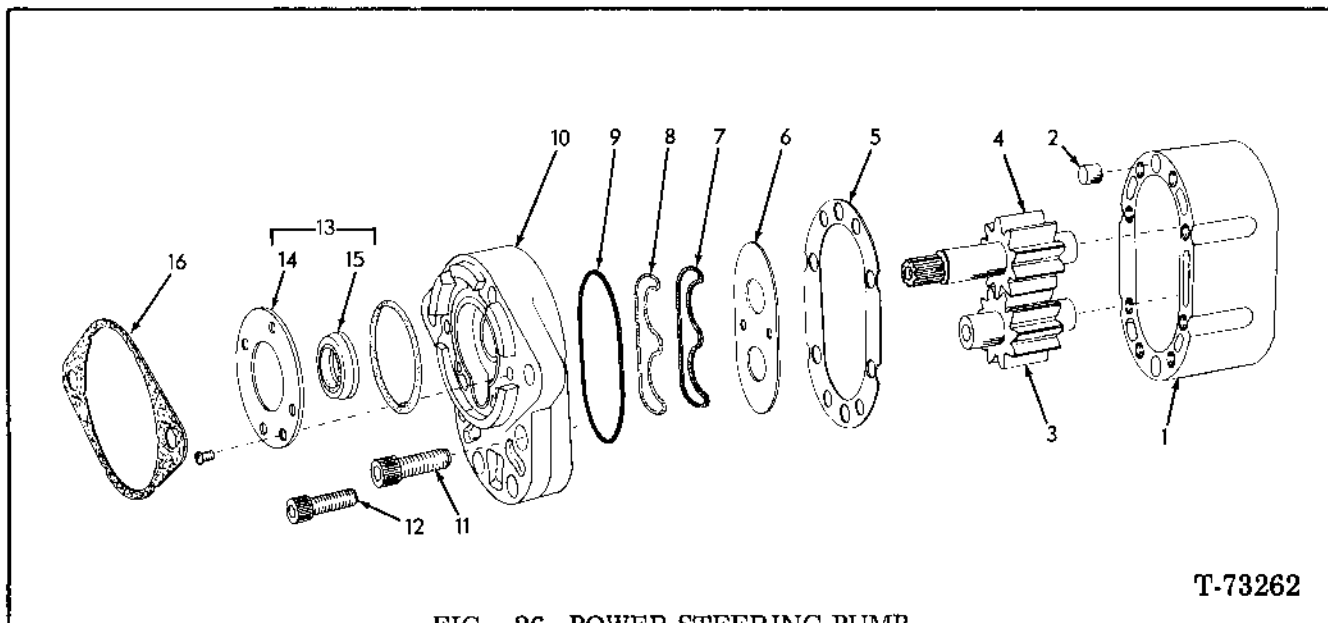

FIG. 26 POWER STEERING PUMP
Seal open ports of the power steering pump. Thoroughly clean exterior of the pump with a non-toxic, non-flammable cleaning solution and dry thoroughly. Scribe mark the end cover assembly (1), FIG. 26, and the body assembly (10) to facilitate assembly.